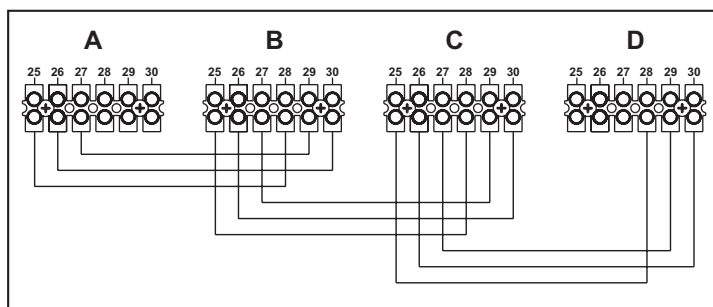

fig. 27 - Connection in cascade
1. Connect the modules as shown in fig. 27 (example with 4 modules)
If this does not occur, disconnect the power and check the wiring in fig. 27.